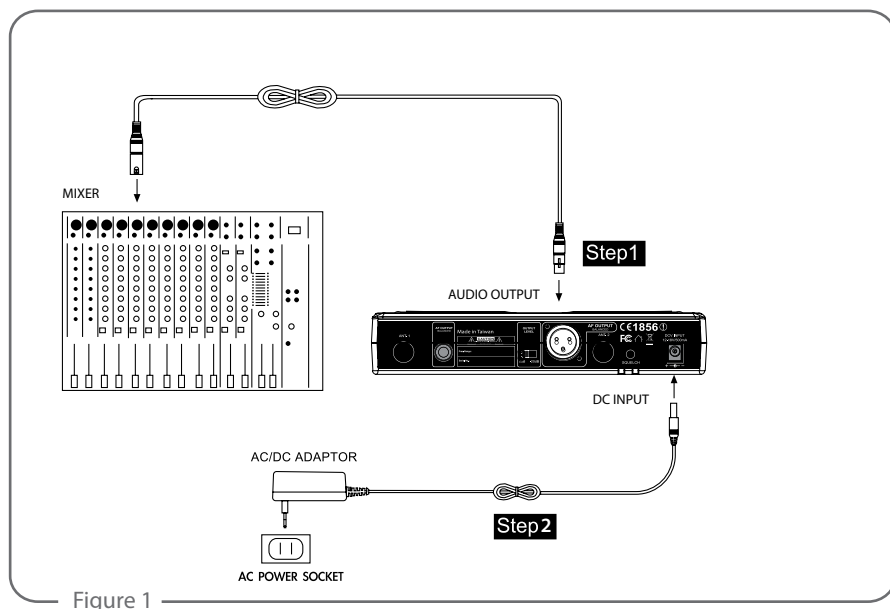

Figure 1
- (1) Connect to the subsequent unit (e.g. mixer, or amplifier)
Connect one end of a proper AF cable to the AF Output ⑪ or Balanced XLR Output socket ⑫, then plug another end to the “MIC IN” input socket of a mixer or a amplifier (Step 1 of Figure 1)
- (2) Connect the power supply unit
Plug in one end of AC/DC adaptor cable ⑥ to Power Supply Jack ⑨ in the rear panel of receiver, and plug another end into an AC outlet (Step 2 of Figure 1)